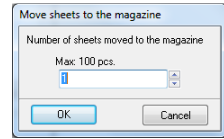

Fig. 57 – moving sheets to the project
-  **Move to the current project** - moves chosen sheets from the general magazine to the current project. It is necessary to specify the quantity of sheets to be moved (the maximum number is equal to the quantity of sheets of a particular type present in the magazine) (Fig. 57 on the next page). The given number of sheets will be removed from the magazine and added to the current project list. Sheets can also be moved by a 'drag-and-drop' method.